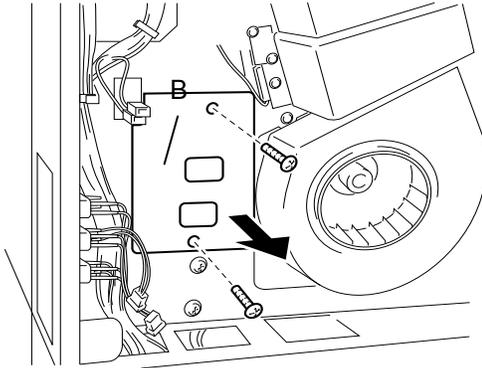

Figure E-4
5. Remove the exit guide B by removing the two screws. (Figure E-4)